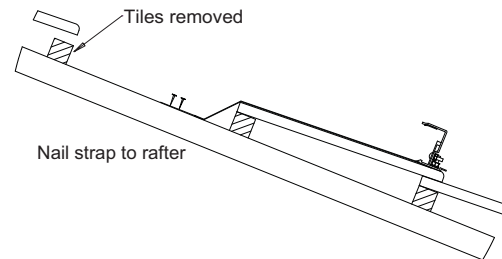

Figure 15 - Mount Lower Collector Rail
- Attach the collector mounting straps to the rafter or truss under the tiles as shown in **Figure 15**.